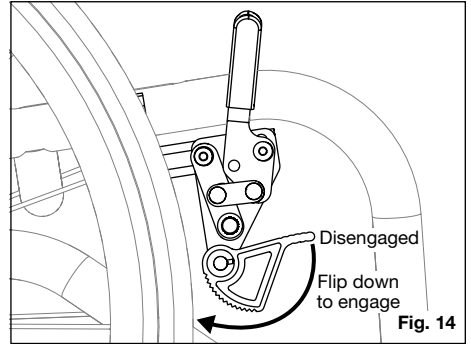

Fig. 14
1. Engage the Grade Aid to prevent roll back by pushing down on the lever end (Fig. 14).
2. Disengage by pulling upward on the lever (Fig. 14).